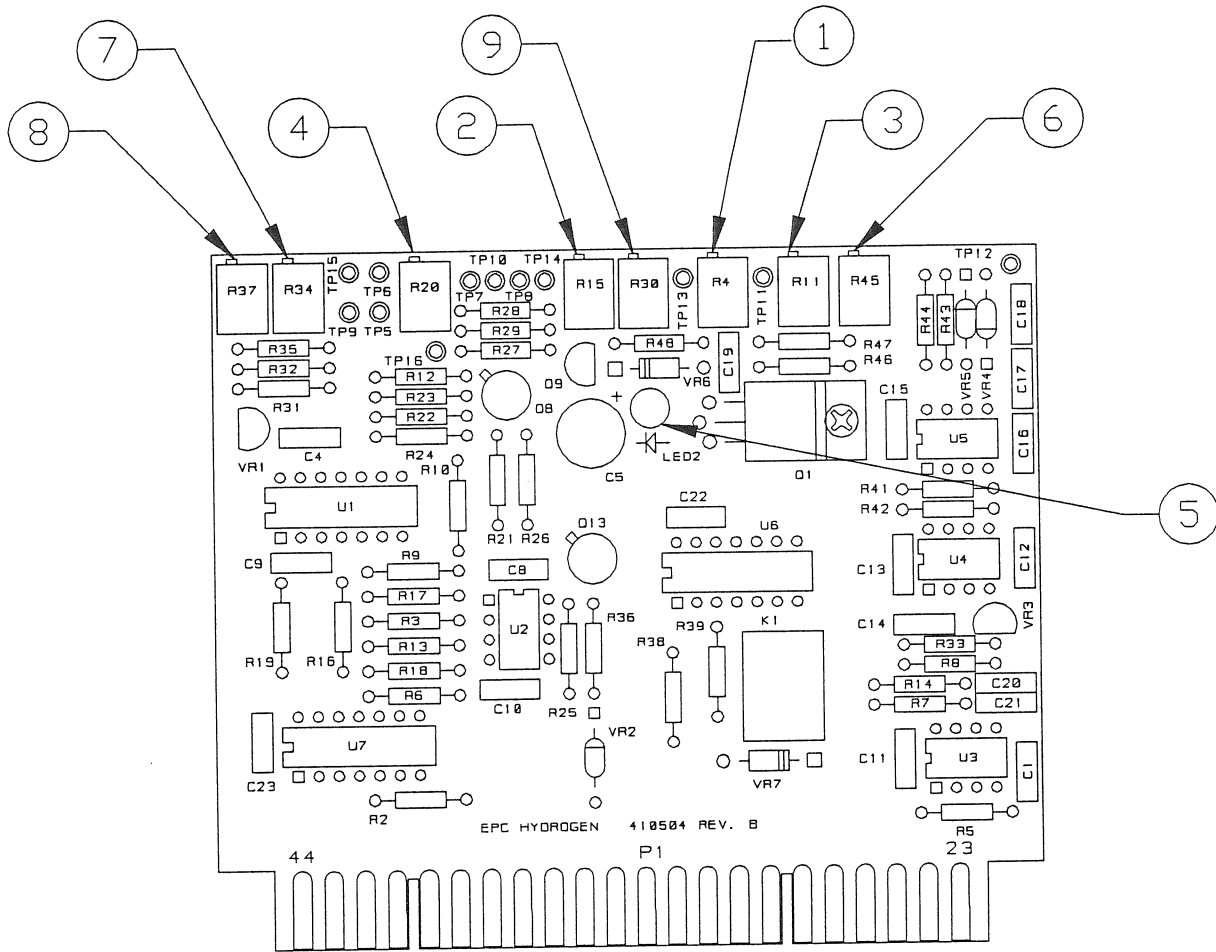

Figure 12 EPC Hydrogen Control Circuit Board Components
EPC Hydrogen/Cutter Temperature Control Board (Figure 12.)
1. **Removal** (Refer to Figure 12)